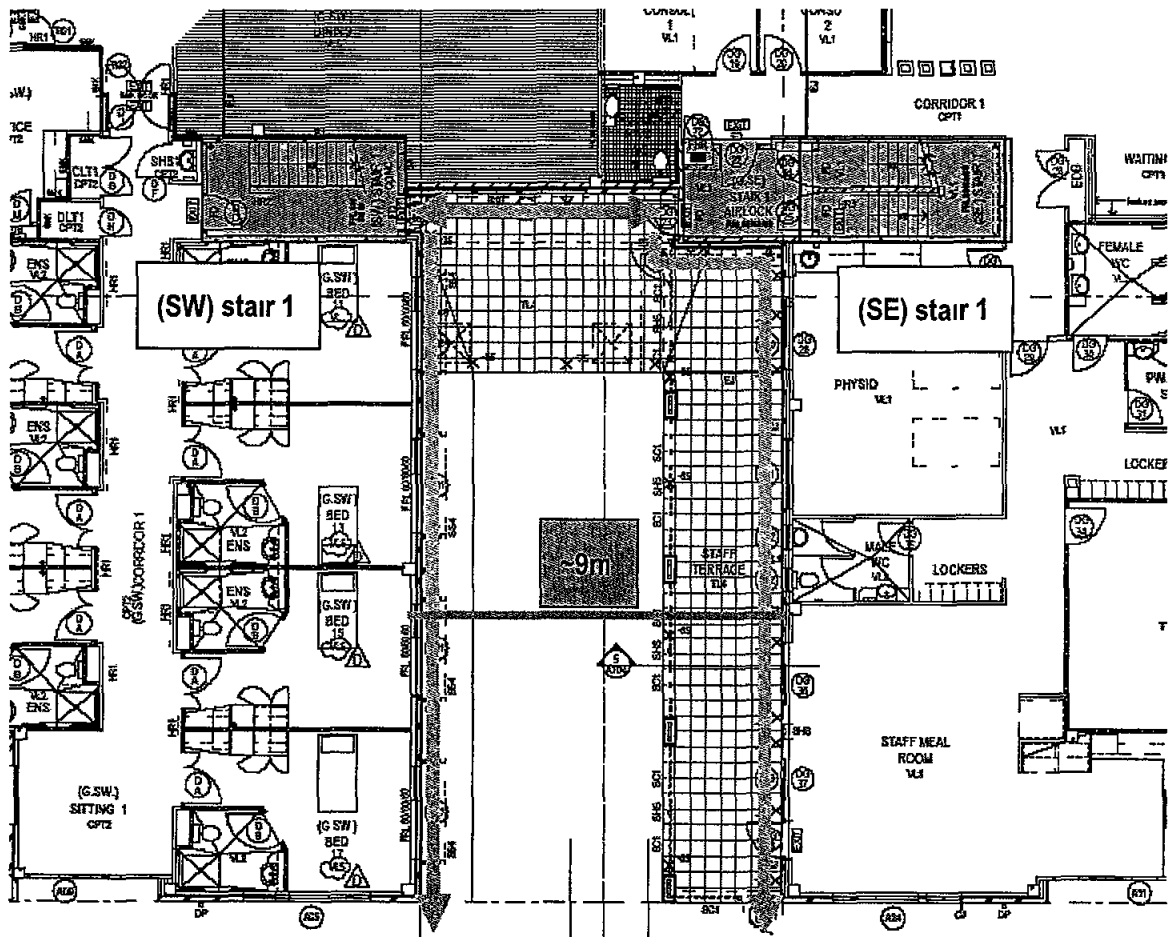

Figure 8 Path of travel to open space
- 13 The path of travel to open space when discharging from stair (SW) stair 1 and (G SE) stair 1 must comply with items 11, 12 and Figure 8